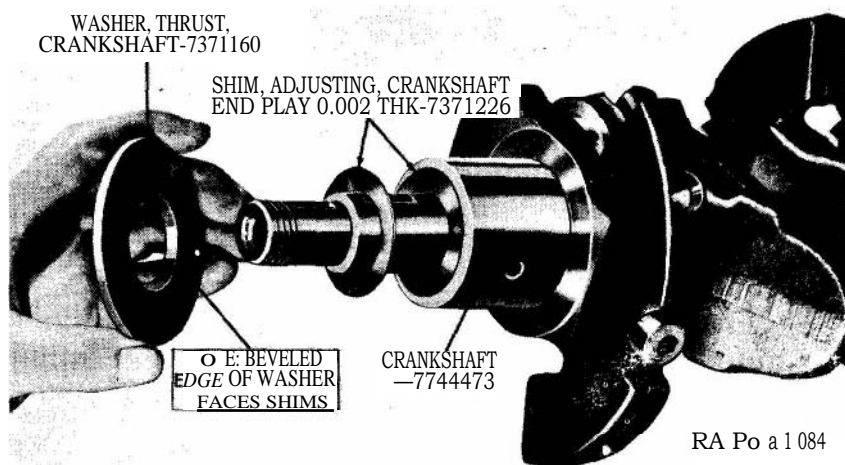
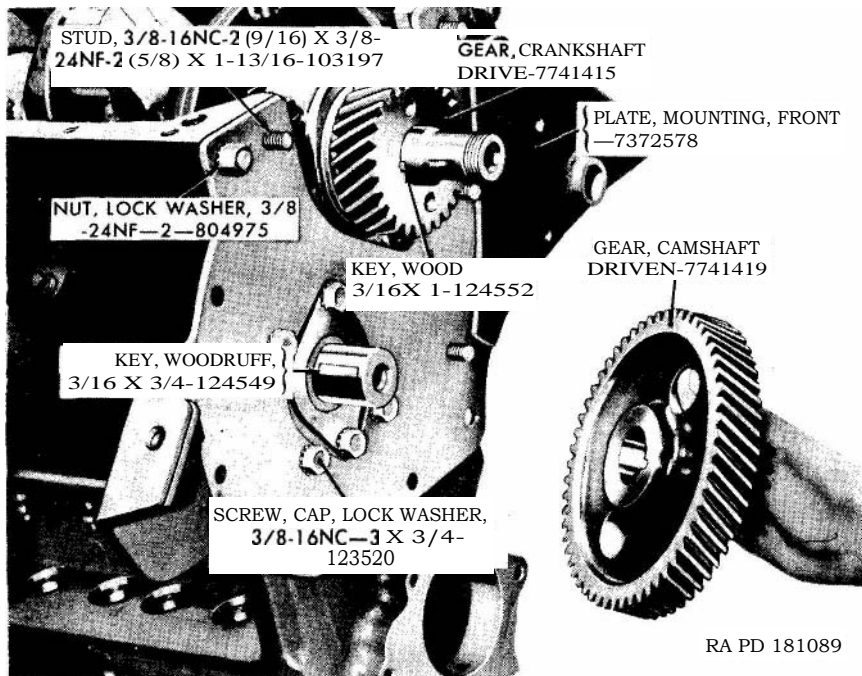
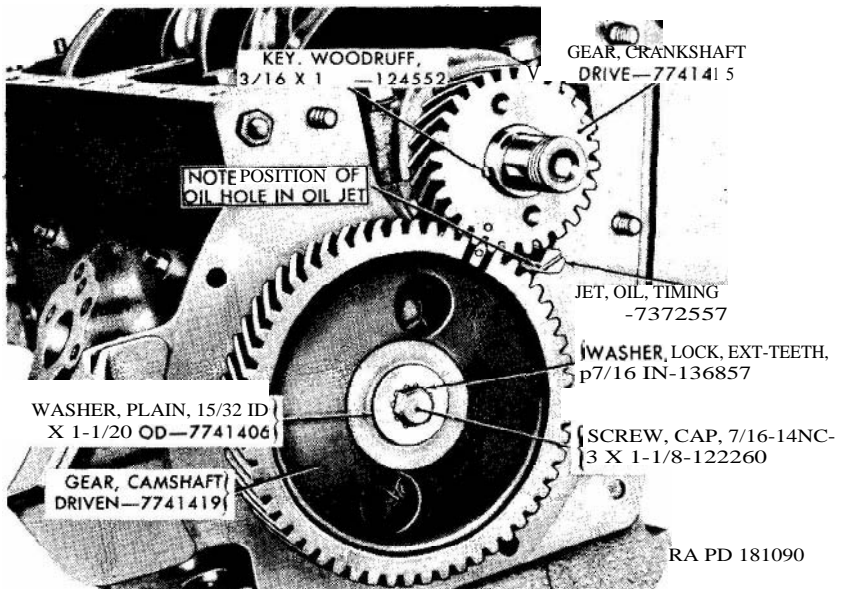

Figure 73. Crankshaft end play adjusting shims and thrust washer.
Figure 78. Installing camshaft driven gear.
Figure 79. Crankshaft drive and camshaft driven gears (timing gears).
b. Stand the crankshaft upright on the rear (flanged) end on a clean solid surface. Install three 0.002-inch crankshaft end play adjusting shims (fig. 73) and the crankshaft thrust washer on the front end of the crankshaft. Install the thrust washer so that the inner beveled edge faces the rear end of the crankshaft.
c. Install the $\frac{3}{18} \times 1$ crankshaft drive gear woodruff key (fig. 78) in the longer of the two key slots on the front end of the crankshaft. Install the crankshaft drive gear on the front end of the crankshaft with the timing mark "0" facing out, away from the cylinder block. Aline the keyway in the gear, with the key installed in the shaft, and drive or press the gear onto the crankshaft and firmly against the thrust washer.
b. Coat both sides of the mounting plate to cylinder block gasket with liquid type gasket cement and install the gasket over the mounting plate studs. Install the front mounting plate and secure in place with two $\frac{3}{8}$ -24NF-2 lock washer nuts (fig. 78) and three $\frac{3}{8}$ -16NC-3 x $\frac{3}{4}$ lock washer cap screws. Coat the threads of cap screws with plastic type gasket cement before installing.
a. Install the $\frac{3}{16}$ x $\frac{3}{4}$ camshaft driven gear woodruff key (fig. 78) in the key slot in front end of the camshaft.
b. With the woodruff key in the camshaft and the key slot in the camshaft driven gear (fig. 78) in alignment, start the camshaft driven gear onto the camshaft with the wide hub of the gear facing out, away from the cylinder block. Turn the camshaft or the crankshaft as necessary to bring the timing marks "0" (figs. 73 and 80) in both gears together. Slide the $\frac{7}{16}$ -inch external teeth lock washer (fig. 79) and the $\frac{1}{2}$ ID x $1\frac{1}{20}$ OD plain washer onto the $\frac{7}{16}$ -14NC-3 x $1\frac{1}{8}$ cap screw and thread the cap screw into the front end of the camshaft. Tighten the cap screw to 30 to 40 pound-feet torque, pressing the gear onto the front end of the camshaft in the process.
Install the timing gear oil jet (fig. 79) in the tapped hole in front of the cylinder block. Position the oil hole in the side of the oil jet so that it will direct the oil stream against the camshaft driven gear just ahead of the point of its engagement with the crankshaft drive gear.
- (2) Because the tang and the slot are both machined off center, the two shafts can be meshed in only one position.
- (3) Since the position of the distributor shaft determines the "timing" of the engine, and since the position of the distributor shaft is determined by the position of the oil pump shaft, the position of the oil pump shaft with respect to the camshaft is critical.
b. Turn the crankshaft as necessary to bring the timing marks "0" on the crankshaft drive and camshaft driven gears together (fig. 79).